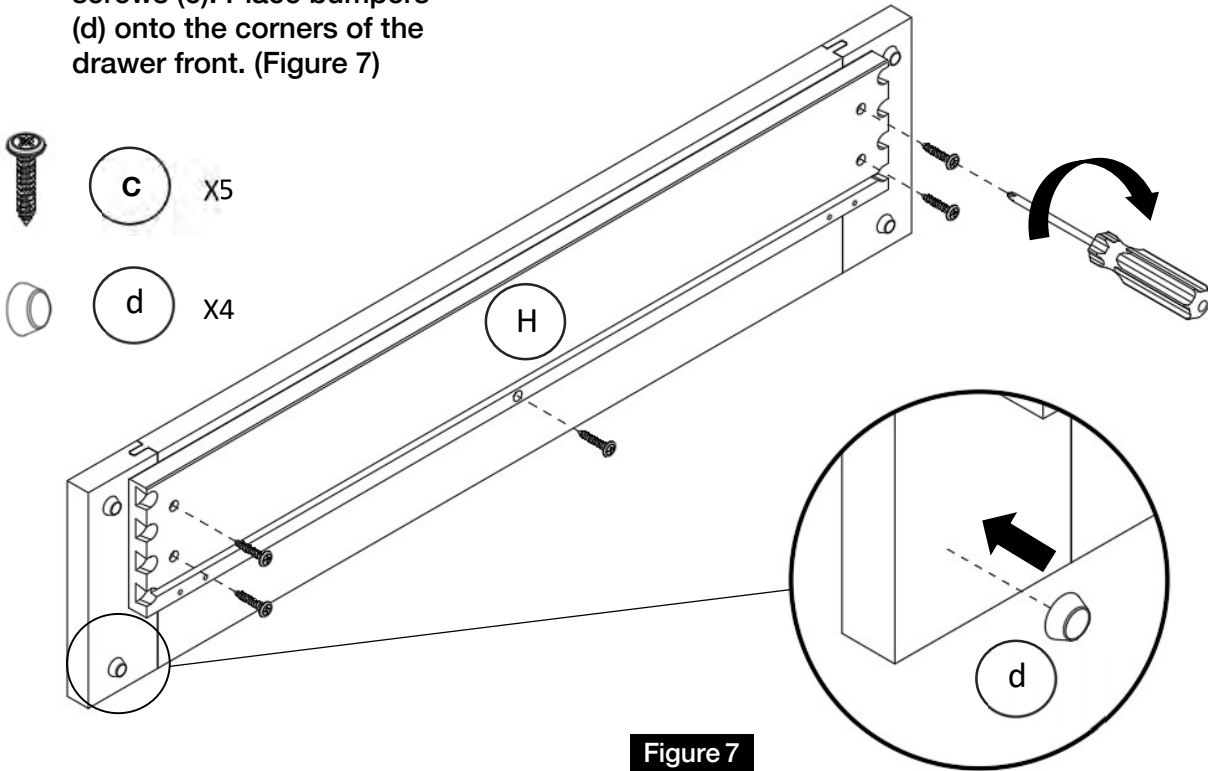

Figure 7
Assemble the drawer front (H) onto the drawer box front using the supplied screws (c). Place bumpers (d) onto the corners of the drawer front. (Figure 7)